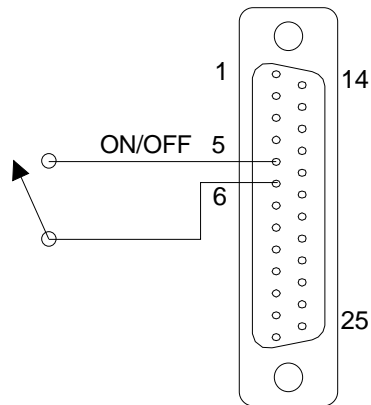

Figure 3-13. Remote Output On/Off Control by Contact Closure
1. Remote output on/off by contact closure. Output is on when contacts (J1-5 and J1-6) are closed. See Figure 3-13 for connection requirements.